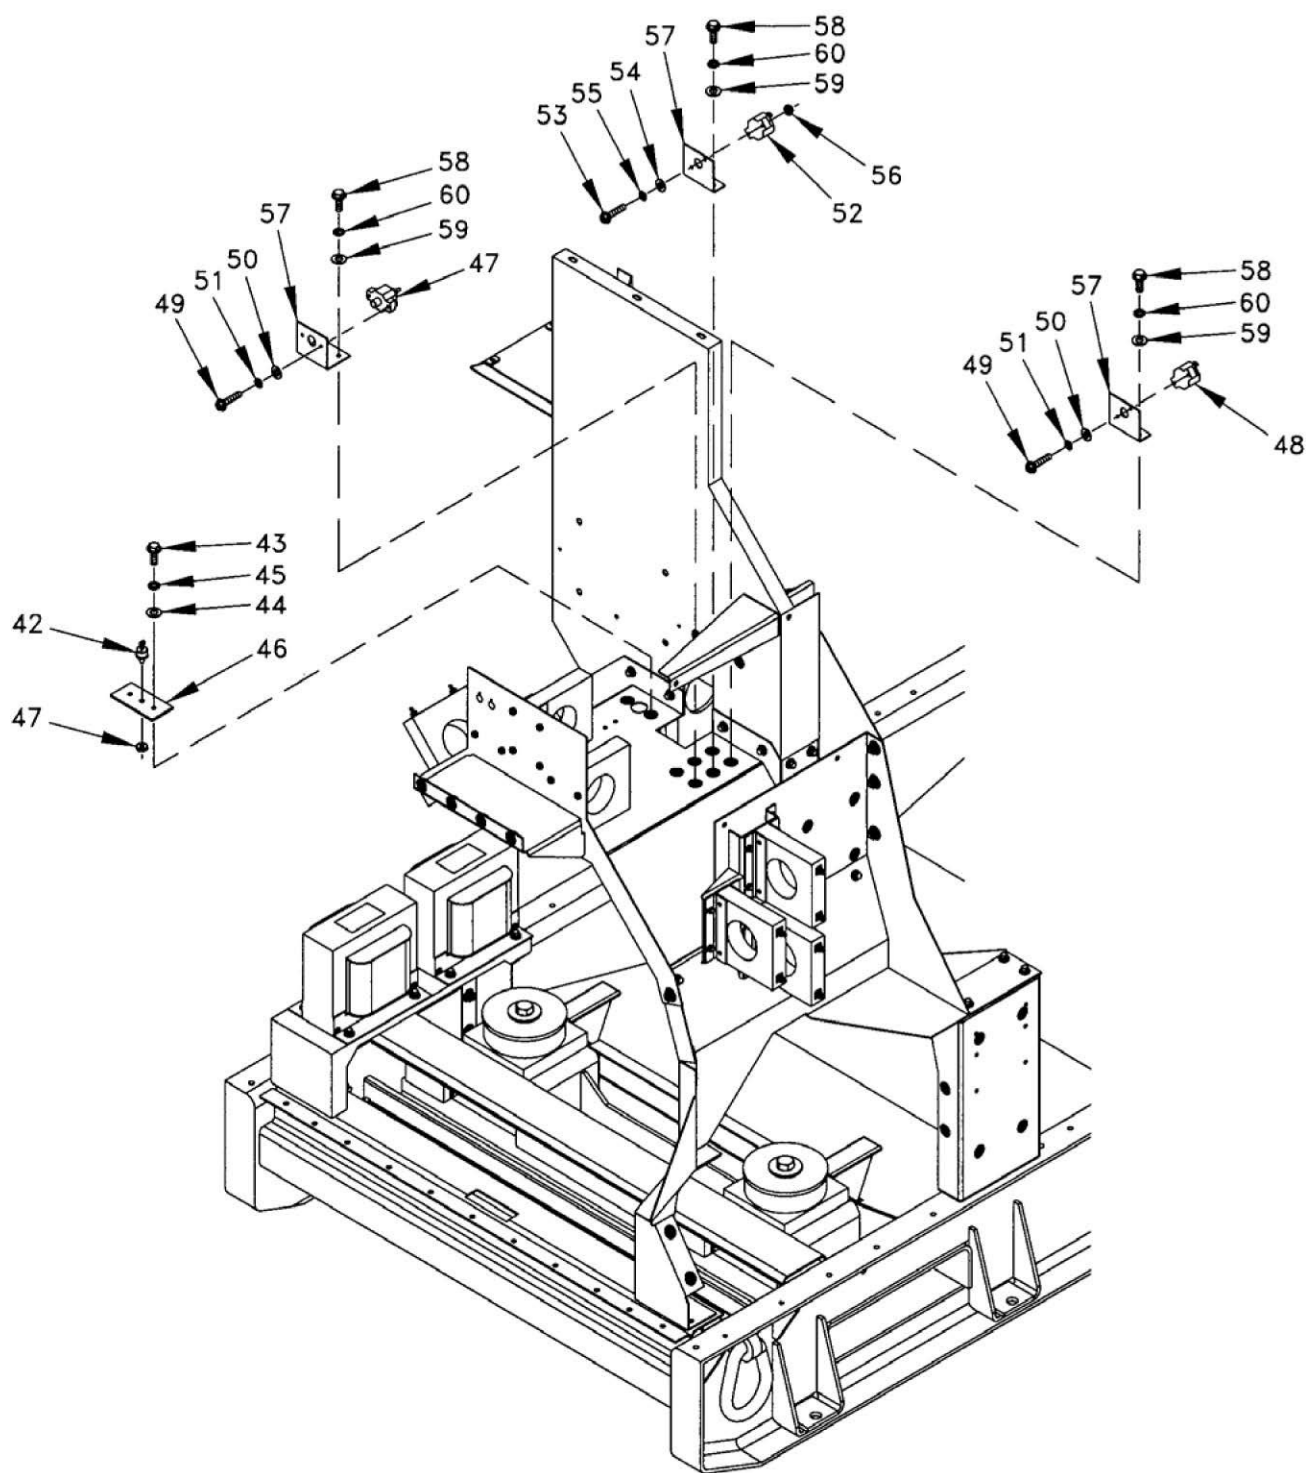

Figure 1. Electrical Installation (Sheet 3 of 3).
5. To remove terminal board TB5 (Figure 1, Sheet 1, Item 12), tag and disconnect wires from terminal board, remove two nuts (Figure 1, Sheet 1, Item 13), screws (Figure 1, Sheet 1, Item 14), terminal board (Figure 1, Sheet 1, Item 12), and strip (Figure 1, Sheet 1, Item 17). Tag jumpers (Figure 1, Sheet 1, Item 15) locations. Remove screws (Figure 1, Sheet 1, Item 16) and jumpers (Figure 1, Sheet 1, Item 15).